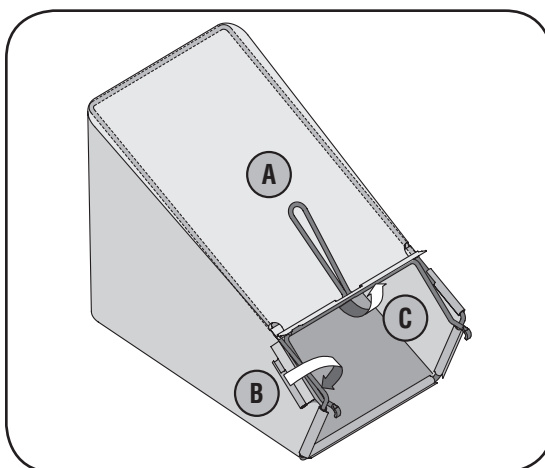

Figure 7
- a. Place bag over frame (black plastic side is the bottom of bag.) Insert the hooks on the frame through the holes in the side plastic channels of the bag. See Figure 7.
- b. Secure bag to frame by working the plastic channels on bag over frame as shown in Figure 7. All of the plastic channels except center top of bag attach from the outside of bag. Center top of bag attaches from the inside of bag.